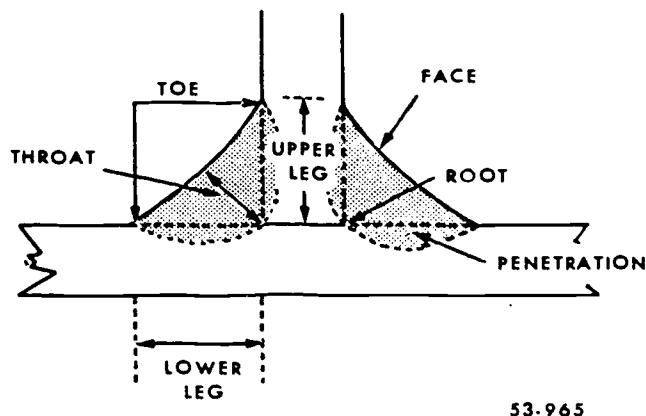

Figure 3-21. Tee joint nomenclature.
*Weld requirements for tee joints.* The requirements for tee joints are expressed by nomenclature, as shown in figure 3-21. Regardless of whether stringer or weave beads are used in making a tee joint, the size of the weld remains the same. The size of a fillet weld is expressed in terms of the length of the legs of the largest isosceles triangle which can be described in the weld cross section, as shown by the hidden object lines in figure 3-22. The length of the legs and the thickness of the throat are based on the thickness of the base metal, as shown in figure 3-22.